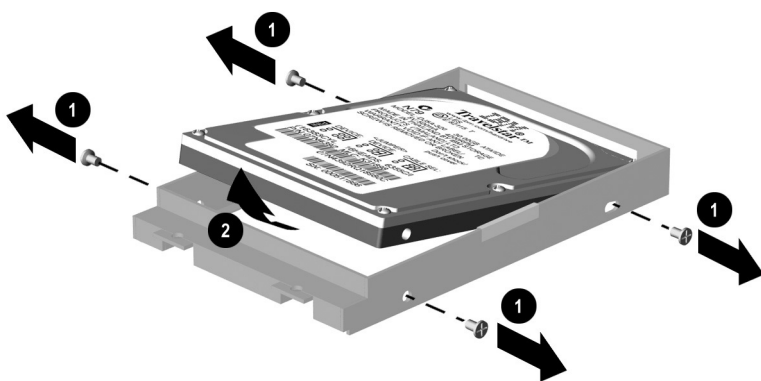

Figure 5-6. Removing the Hard Drive from the Hard Drive Bracket
- a. Remove the four PM2.5 × 4.0 screws ❶ that secure the hard drive to the hard drive bracket (Figure 5-6).
- b. Lift the hard drive straight up ❷ and remove it from the bracket.